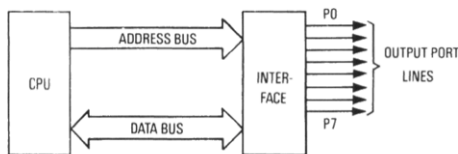

Fig. 2
**Q7** Fig. 2 shows a simplified diagram of a microprocessor with a parallel peripheral interface.